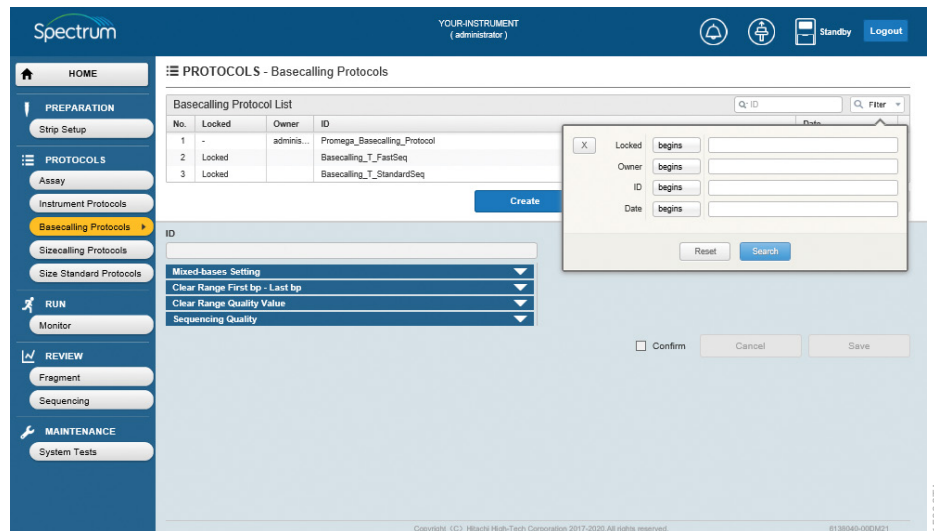

Figure 42. Basecalling Protocol List search filter option selection.
3. After selecting the appropriate search field, select the magnifying glass or down arrow icon in the Filter box to display filtering options by the different fields (Figure 42).